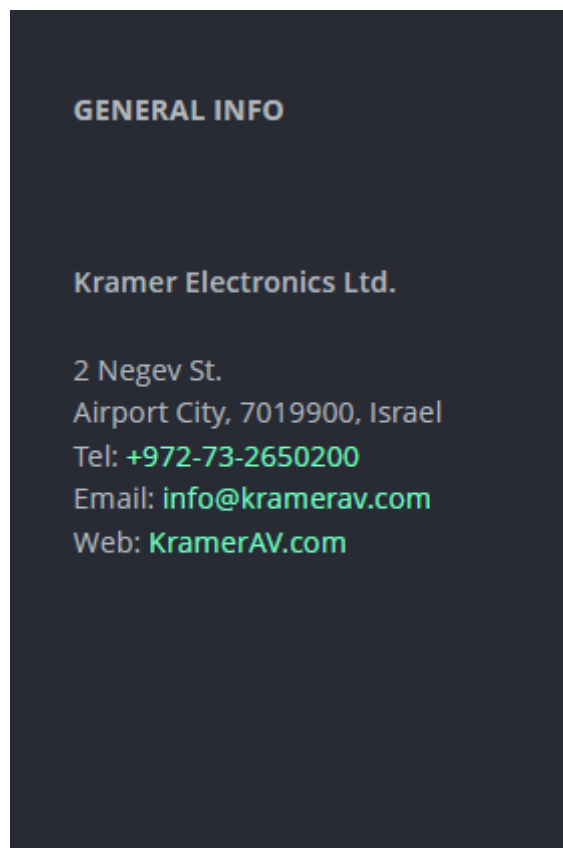

Figure 37: About Page
2. Select the Device Security tab. The Security settings appears (Figure 37).